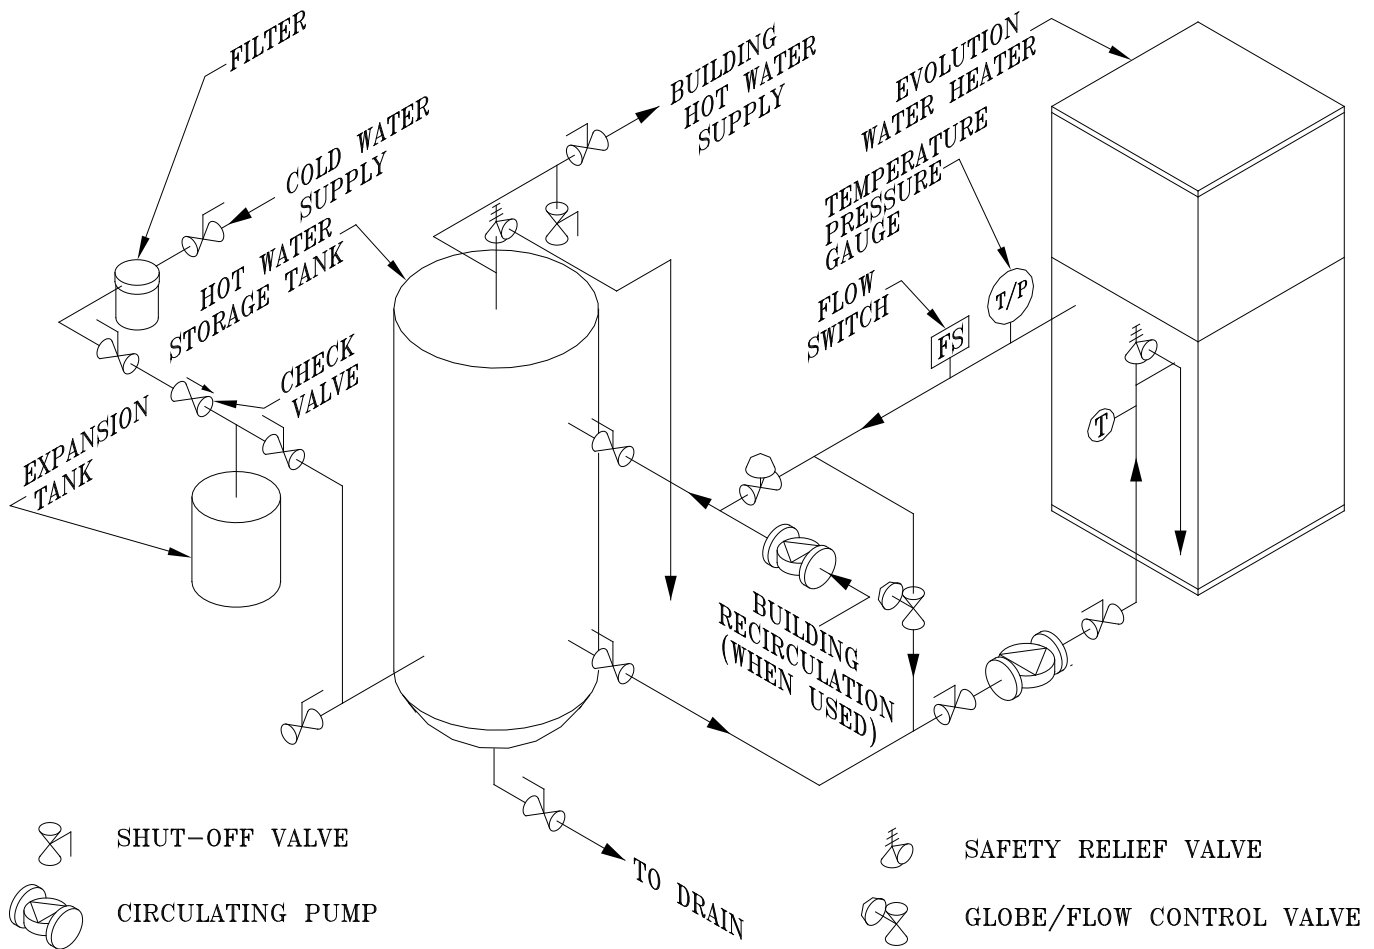

Figure 9: Water Piping
3. Connect system supply and return piping to water heater. Refer to Figure 9. Also consult I=B=R Installation and Piping Guides. Maintain 1/2" minimum distance between water piping and combustible material. Consult Thermal Solutions for unusual system requirements.